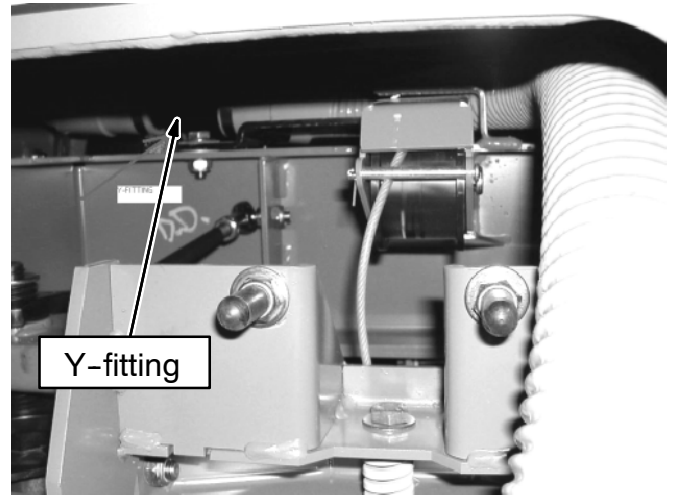

FIG. 2
2. Reach under the machine from the left hand side and locate the Y-fitting. It is located approximately in line with the rear wheels, in the middle of the machine. (Refer to FIG. 2)